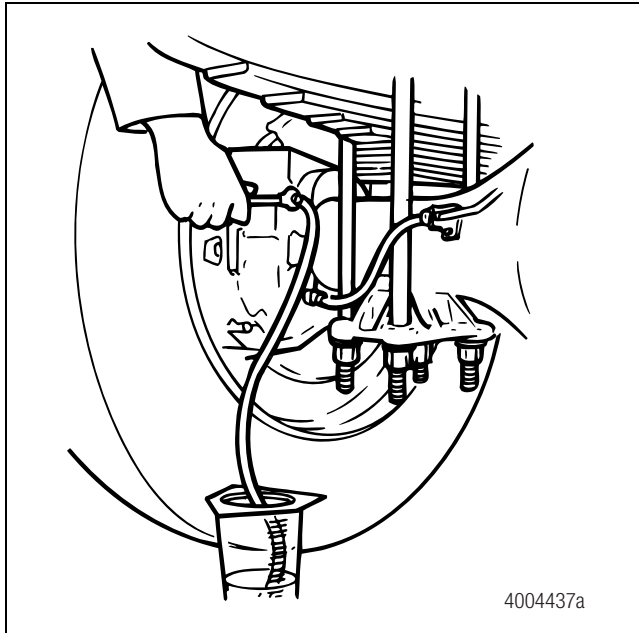

Figure 4.35
- C. Use a wrench to open the bleeder fitting screw. Figure 4.35.